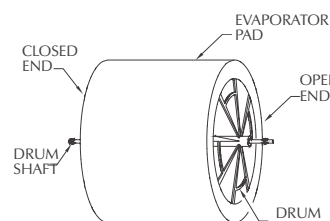

Figure 18
15. Retrieve the drum and evaporator pad assembly. This assembly is made up of the drum the evaporator pad, and the drum shaft, you will notice this assembly has an open end and a closed end. (Fig. 18)